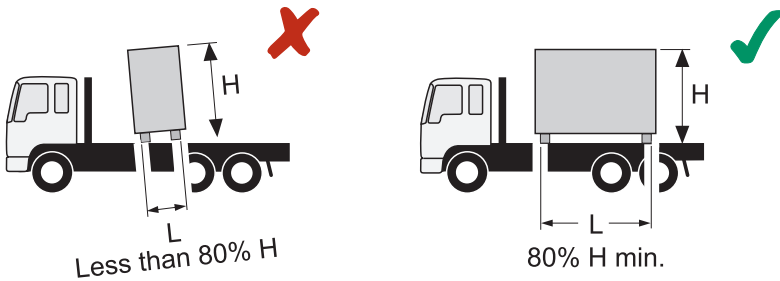

Fig. B.16 UNSTABLE FORWARDS
Tall loads are unstable in the forward direction, if the length (L) measured along the vehicle, is less than 80% of the height (H) (see Figure B.16). This applies to evenly shaped loads of the same material throughout such as paper rolls, 205 litre drums, or gas cylinders.